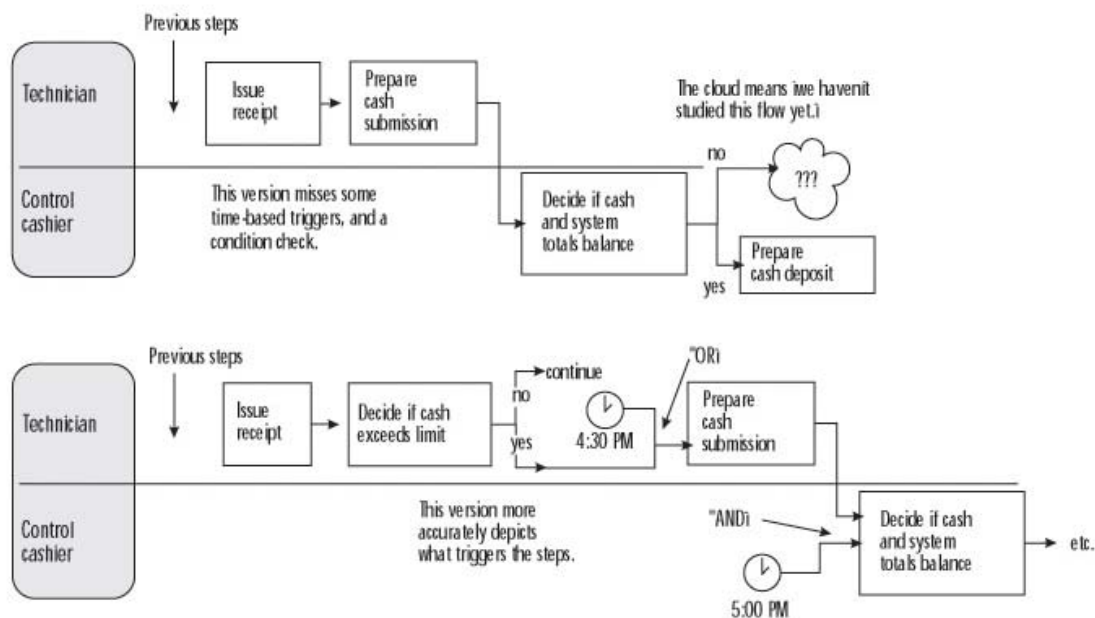

Figure 10.5: Additional symbols, including time-based (temporal) events.
We add some special symbols, but just a few. (Figure 10.5 illustrates these.) A labeled clock icon, indicating a time-based event (or trigger) can be useful without being distracting. We also find a lot of use for a cloud with a question mark in it, indicating “we know something's going on here, but we don't know yet what it is—we will get back to it.” Or, the cloud can contain narrative explaining that whatever is going on is too complicated to depict with a swimlane diagram, but needs to be captured. Note that we liberally sprinkle annotations into our diagrams.
- These are illustrated in Figure 10.5, except the untriggered decision, which is rare in practice. In the "five key questions" section of the next chapter, further examples are presented.